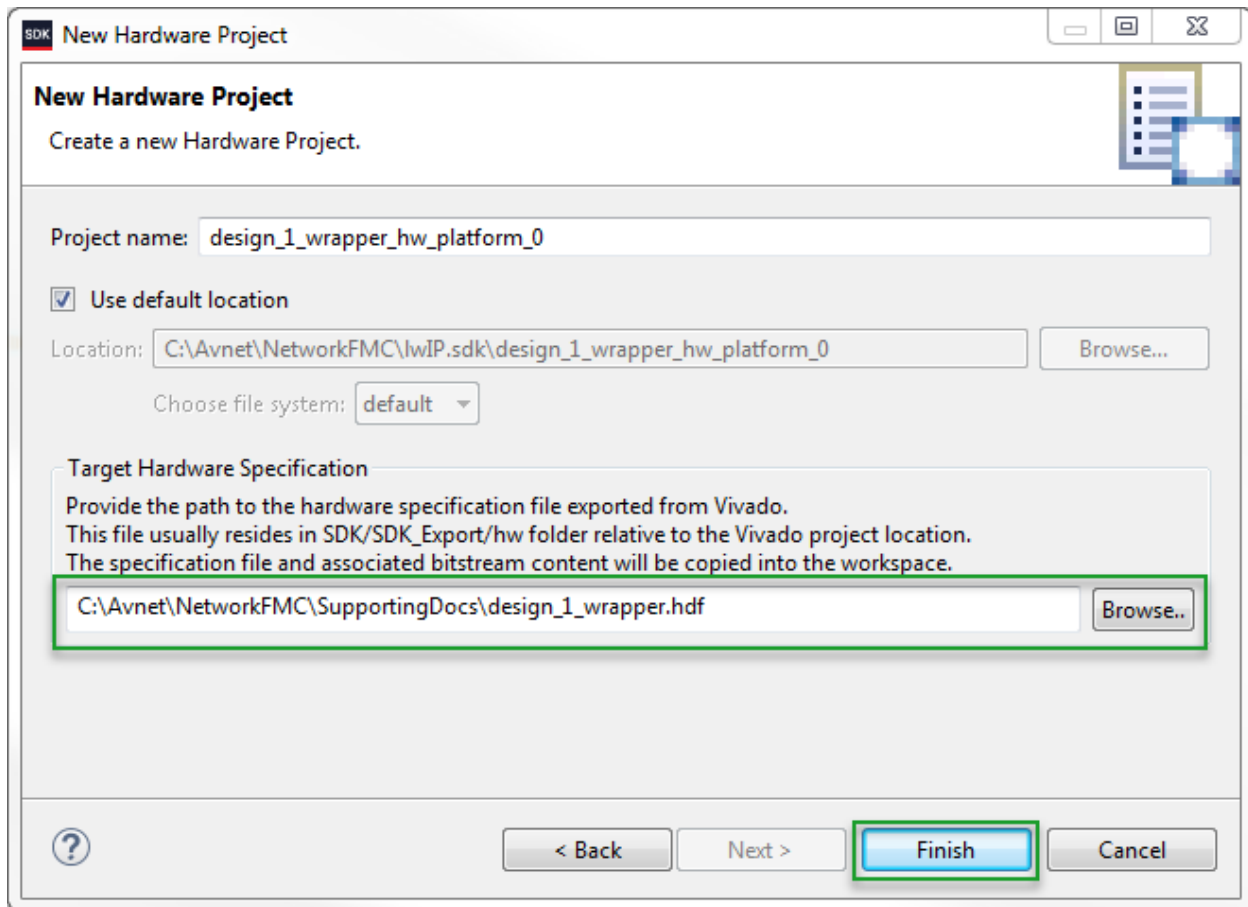

Figure 12 -- Import New Hardware Project
19. To connect to the echo server, use the telnet utility program. Type the following telnet command as shown below in figure 12 and hit the return key in the command window.